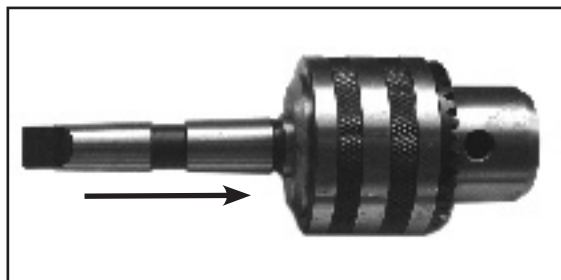

Figure 11
2. Insert the arbor into the chuck rear as shown (Fig. 11). Make sure that the arbor end and receiving tapered hole in the chuck body rear are clean of grease, oil, rust protection and any burrs or scratches that disrupt the taper surface.